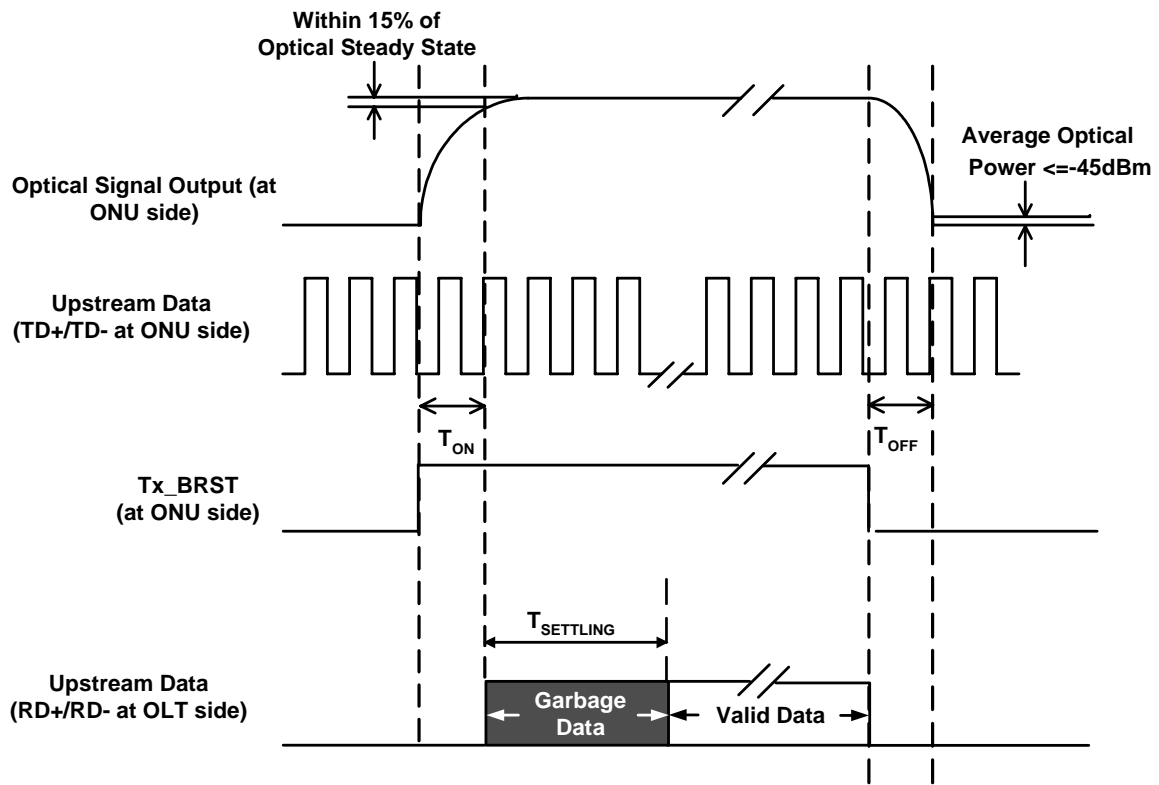

Figure 1, Timing Parameter Definition in Burst Mode Sequence (Sole ONU Application)
7. See Figure 1, 2. For multiple ONUs application, It isn't easy to test $T_{SETTLING}$ directly, but there is a relationship $T_{SETTLING} = T_{GAP} - T_{GUARD}$ when $T_{ON} = T_{OFF}$, then $T_{SETTLING}$ can be calculated by T_{GAP} and a certain guard time at ONU side.